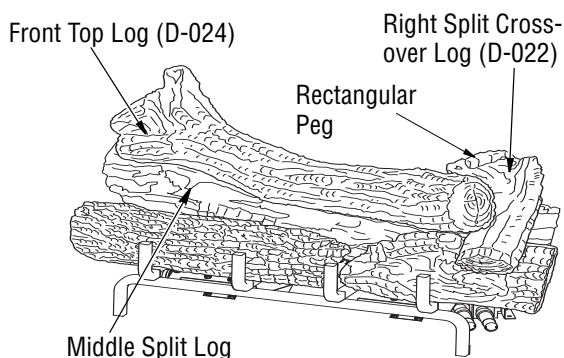

Figure 30 - Installing Large Middle Log
7. For GTA/GTB logs, find the front top log (D-024). See **Figure 30**. The left end of this log has a square hole that fits over a square peg that is on the top of the middle split log. The right end of this log rests behind the knot on the top of the front right log.